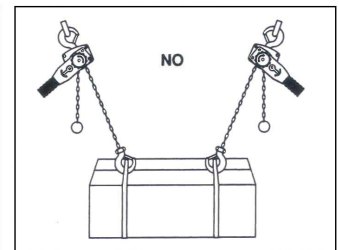

FIGURE 3
11. DO NOT try to suspend load with two blocks.(Fig. 3)